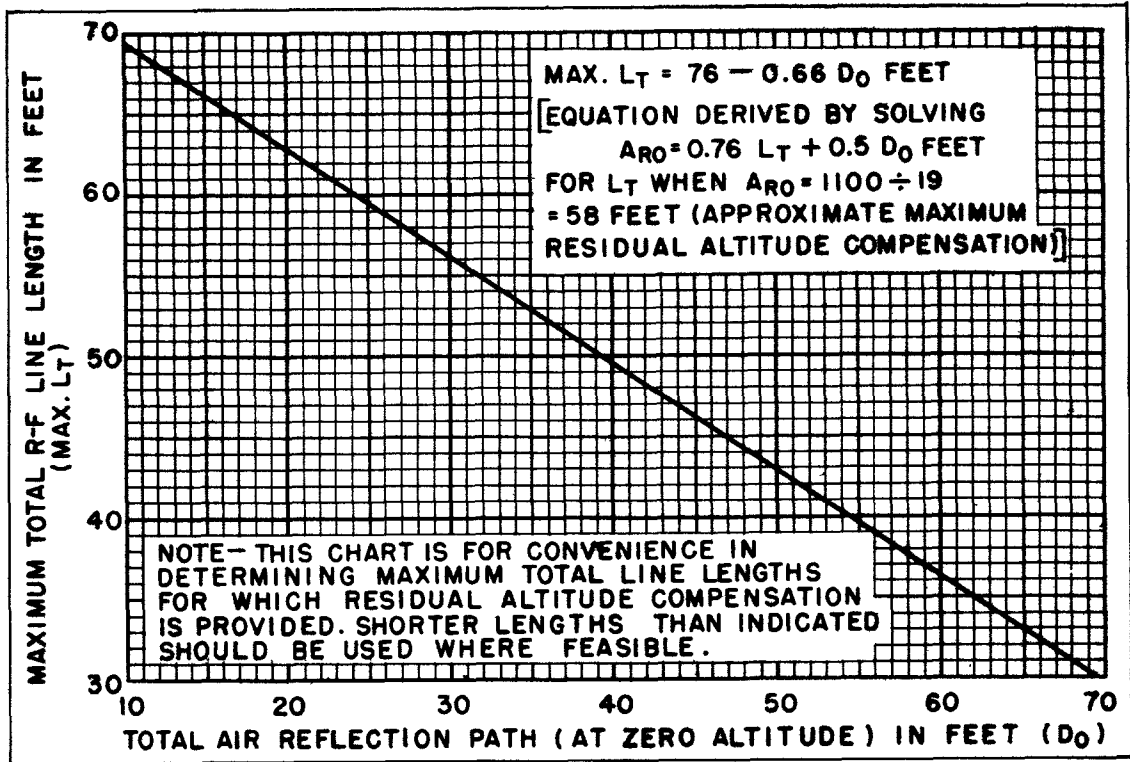

Figure 8—Chart for Determining Maximum Total Length of Transmission Lines
For a specific antenna placement, the zero altitude reflection path D_0 is fixed by the spacing of the antennas when alighting, and is represented by $D_1 + D_2$ on Figure 29. With given values of D_0 , the maximum permissible values of L_T (corresponding to 58 feet of residual altitude) are indicated on Figure 8. In general, the lengths of the transmission lines, the distance between the antennas, and the included angle of the ground reflection path should not be greater than required for a satisfactory installation. (For a more detailed discussion of residual altitude, see Handbook of Maintenance Instructions.)
(4) The combined length of the two antenna transmission lines W501 and W502 for a specific installation should not exceed the length determined from Figure 8. See paragraph 5-c (1) of this section.